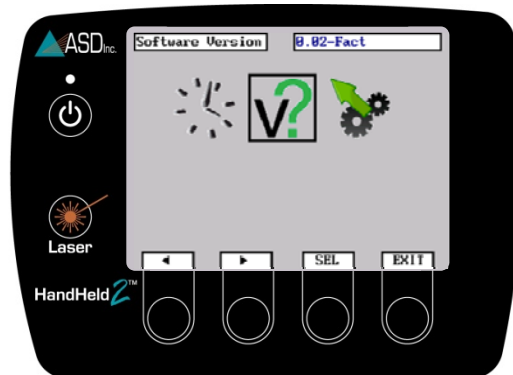

Figure 2-40: Inquire Software Version
- Step 1 Navigate to the Software Version icon and press the *SEL* button to view the software version (Figure 2-40).